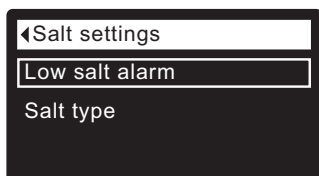

FIG. 40
3. Press the SELECT (O) button to display the Salt settings menu (See Figure 40).
7. Press the SELECT (O) button. The display will go back to the Salt settings menu (Figure 40).